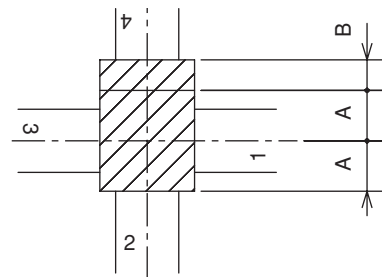

Fig.13-2 If a gripping portion is eccentric
3. If a gripping portion of workpiece is a rectangle or eccentric, form all soft jaws together, and then modify the soft jaw in eccentric direction, meeting the workpiece. For example, in the case of workpiece as shown in Fig.13-2, form all soft jaws to the size A, and then modify only the No.4 jaw to the size B.